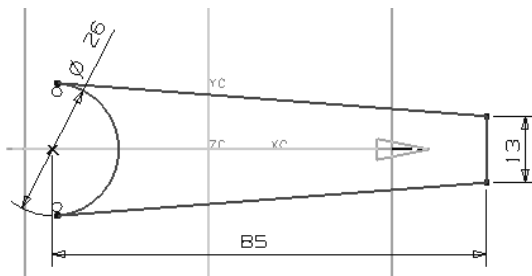

Figure 8-60 Sketch for the base feature
1. Invoke the **Sketch** tool and select the **XC-YC Plane** as the sketching plane. Create the sketch for the base feature, as shown in Figure 8-60.